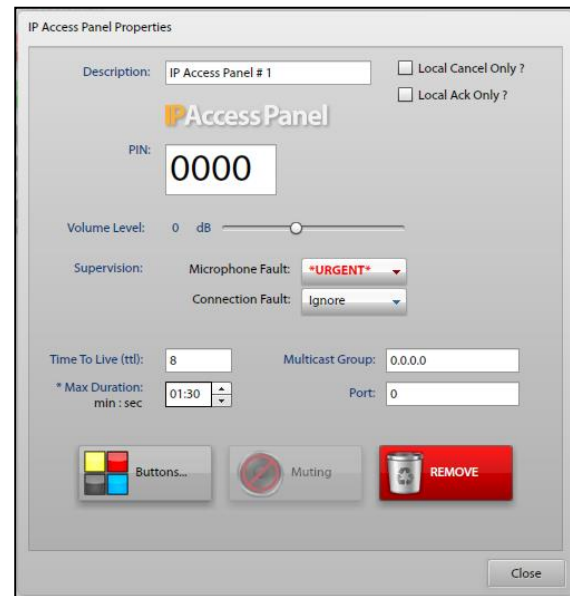

Figure 37. IP Access Panel Properties
2. Click an IPAP in the IP ACCESS PANELS SUMMARY screen to configure the IPAP properties (Figure 37).